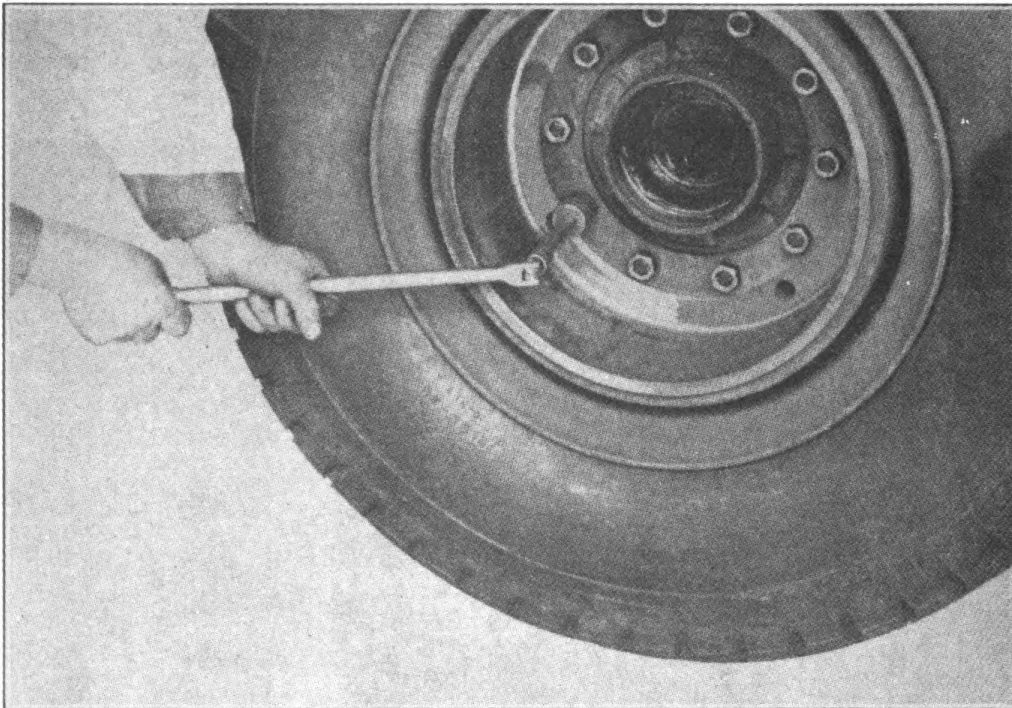

FIGURE 20. REMOVING BRAKE DRUM—FRONT
- (1) Remove wheel and hub assembly.
- (2) If changing drum on the front wheel, block the wheel at both sides and remove the drum by removing the ten nuts holding it to the hub assembly. (Fig. 20.)